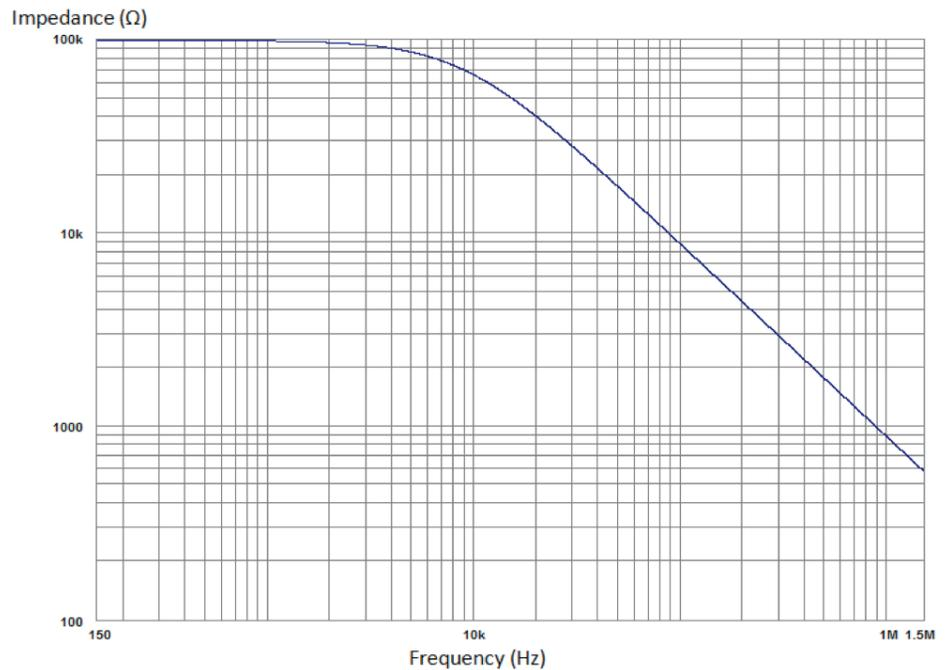

Figure 1.
As well as the 100 k Ω input resistance, Audio Analyzer's have some finite input capacitance. Some of this capacitance is deliberate, it forms an input low pass filter with a corner frequency way above the measurement range of the instrument. The purpose of this filter is to remove any high frequency (RF) content from the input signal that could otherwise upset the audio measurement circuitry. In the case of the U8903B, the input capacitance of the measurement circuitry is around 150 pF, with perhaps another 30 pF due to cabling. Taking all this into consideration the input impedance against frequency is shown in Figure 1. Here we see that the impedance is around 40 k Ω at 20 kHz and less than 1 k Ω at 1 MHz.